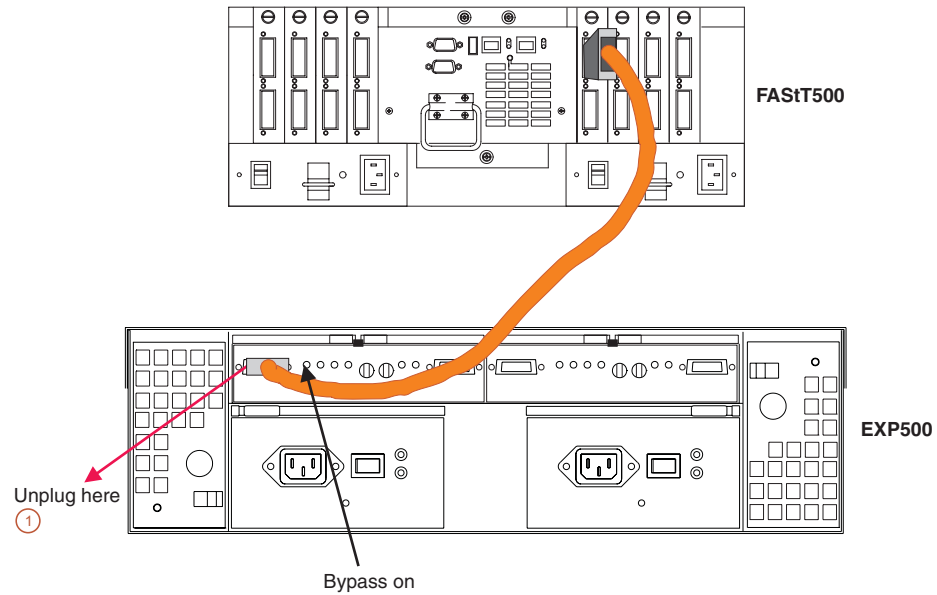

Figure 156. Disconnect cable from loop element
1. Disconnect the cable from the loop element that has the bypass indicator light on. See Figure 156.